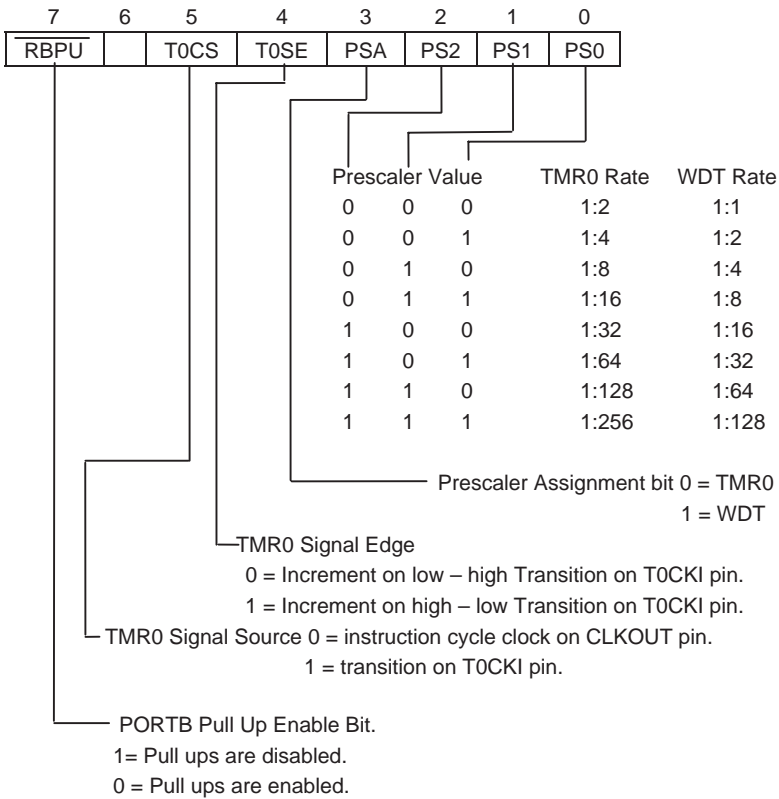

Figure 19.4 Option register
- OPTION** The contents of W are loaded into the OPTION register. This instruction is used to prescale i.e. set TMR0 timing rate as shown in Figure 19.4.